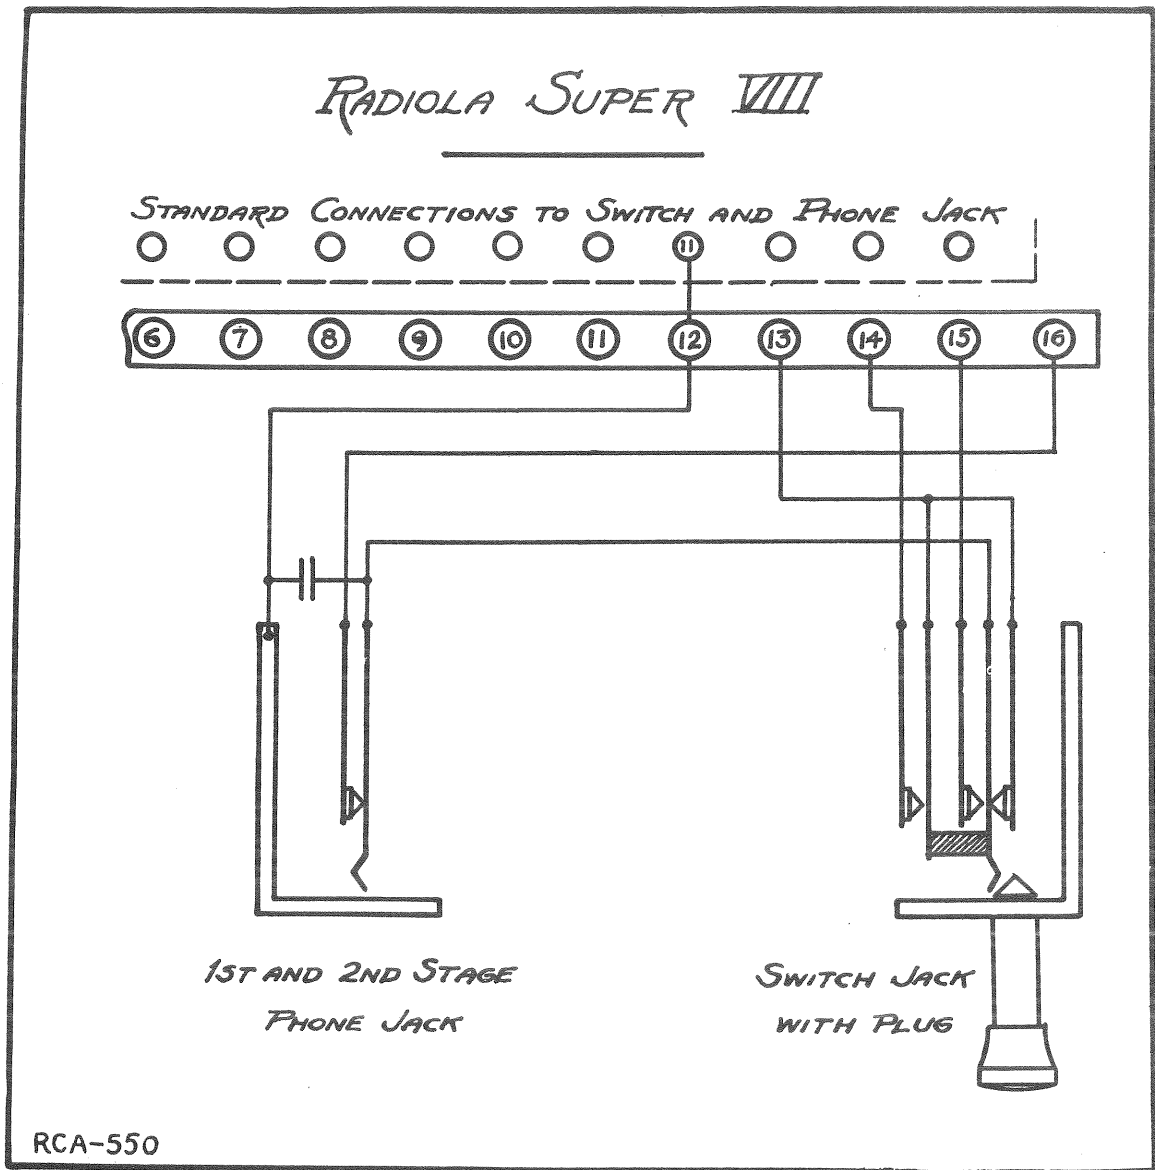
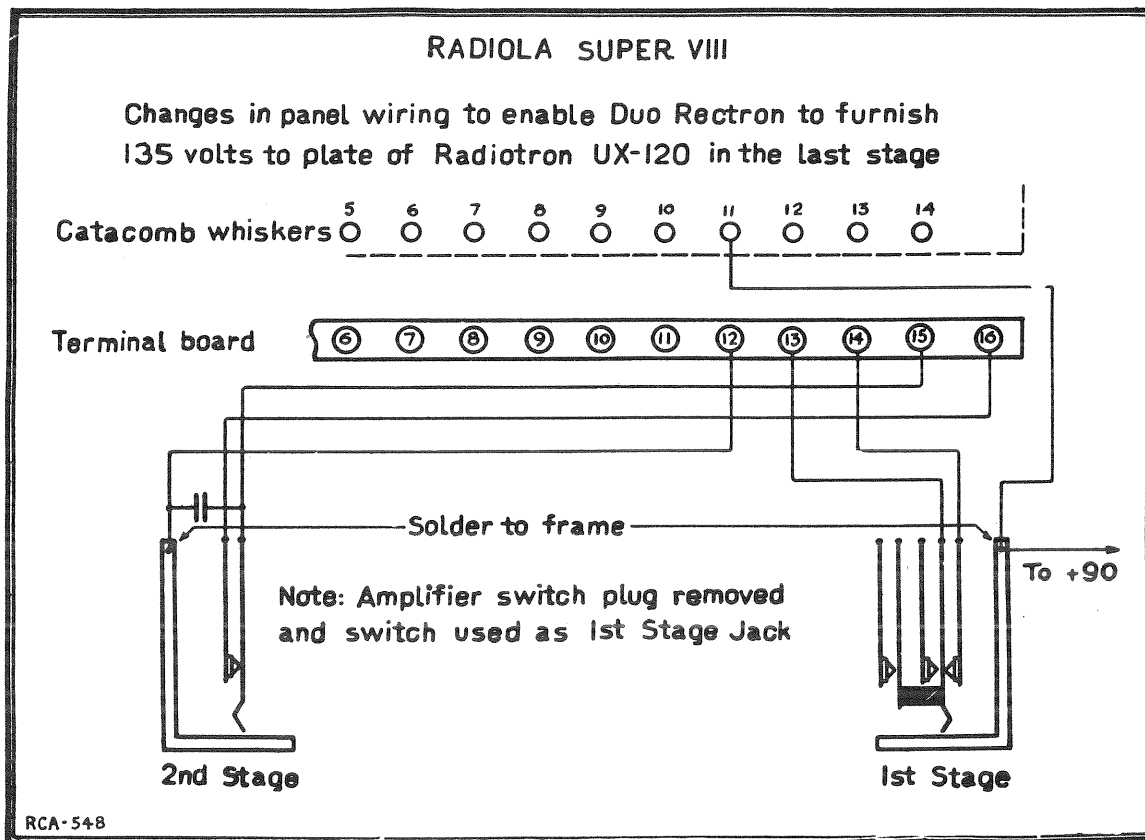

Figure 2
Figure 3
Figure 2 shows the normal wiring connections from the terminal board to the jacks in Radiola Super-VIII. This diagram is included for purposes of comparison with, and to facilitate making the new connections shown in Figure 3.
Figure 3 clearly shows the revised panel wiring necessary to take advantage of the
- (4) Remove amplifier switch plug as instructed in Part 1.
- (5) Referring to Figure 2, unsolder and remove wire running from terminal 15 to switch jack. Referring to Figure 3, make all other changes indicated in this diagram. Special attention is called to catacomb whisker number 11 (fourth from the right) which should be unsoldered from catacomb terminal number 12 and resoldered to the frame of the amplifier switch jack (1st stage). An extra length of insulated wire will be necessary to make this connection, soldering same to the whisker lead and carefully taping to avoid the possibility of it short-circuiting to any other terminal.
- (6) Solder an insulated wire to the frame of the amplifier switch jack (1st stage) and connect other end to the +90 terminal of Duo-Rectron.
- (7) Connect:
Thus connected Duo-Rectron will supply the proper plate voltages for all the Radiotrons, including Radiotron UX-120. The PHONE JACK (Figure 2) becomes the SECOND STAGE JACK (Figure 3) and the AMPLIFIER SWITCH JACK (Figure 2) the FIRST STAGE JACK (Figure 3).
If RCA Loudspeaker Model 102 is installed at a later date, it will not be necessary to replace the original connections. Merely remove Radiotron UX-120 and adapter from the catacomb and insert the loudspeaker plug in the first stage jack (Figure 3).